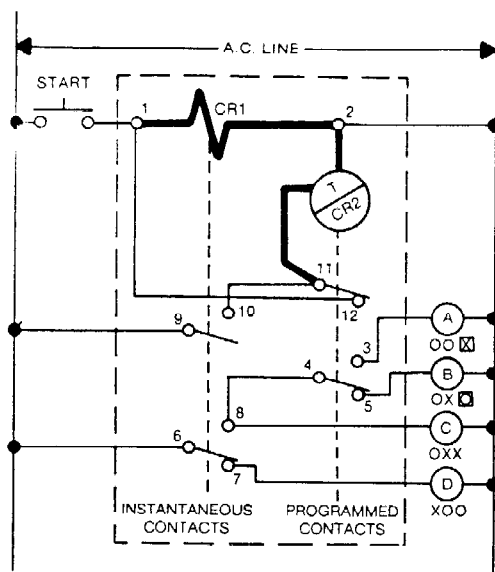

Figure 2
The unit can be used with either a sustained start input or a momentary contact start input. When a momentary input is used, provisions must be made in the wiring to provide "lock in" power to the start circuit on terminal 1 during the timing cycle. This is done using a combination of the instantaneous contacts and the programmed contacts for ON Delay Operation as is shown in Figure 2 of the wiring diagrams.
- e. When replacing older model CT5 timers, note that the Momentary Start/Auto Reset operation, shown in Figure 2, may not produce a usable pulse output.